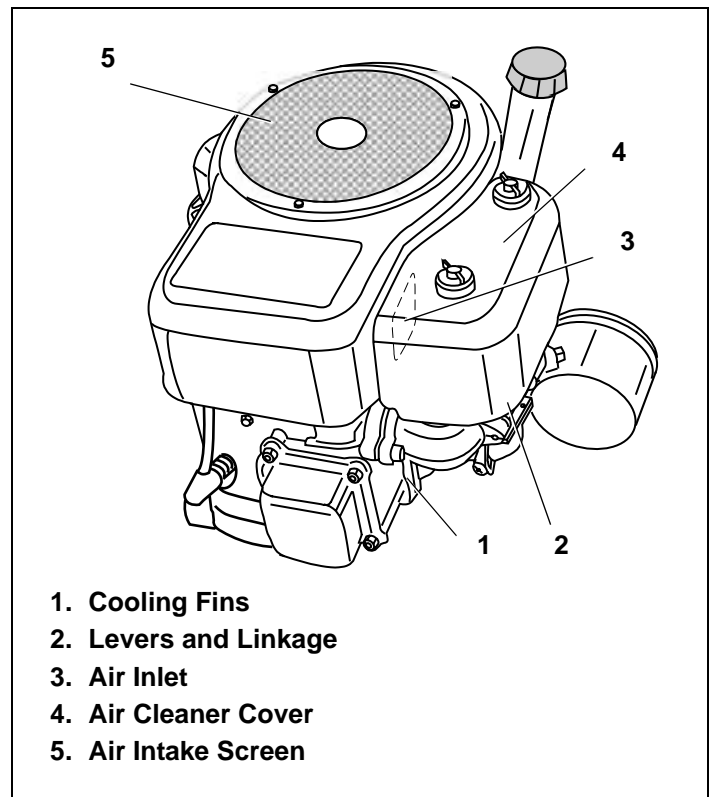

Figure 21. Debris Locations
Removing debris will insure adequate cooling, correct engine speed and reduce the risk of fire. See Figure 21.
*Before removing air cleaner cover, see "III. Filter Removal/Installation" instructions on page 12. Special care should be taken to prevent damage when removing air cleaner cover. See Figure 21. Afterward, continue reading instructions below.*
1. Remove air cleaner cover and filters. See Figure 21.